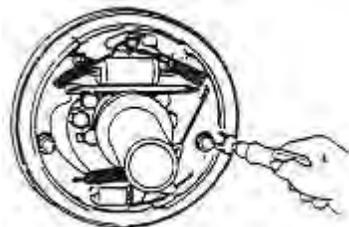

figure 2-16
(1) Disassemble supporting pin, adjusting rod, regulating device and spring on the brake shoe. See figure 2-16